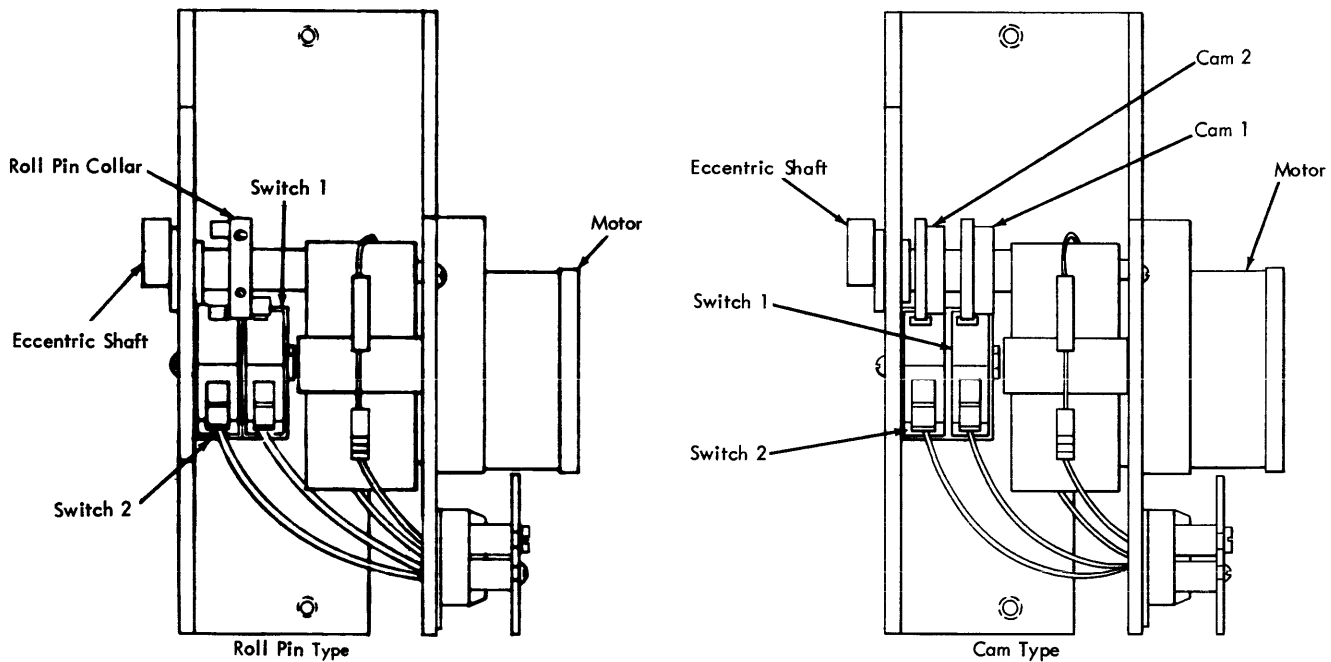

Figure 85. Skew Correction Drive
1. Rotate the eccentric shaft (Figure 85) so the rollpin is actuating the switch.
1. Rotate the eccentric shaft (Figure 85) so the cam is actuating the switch.
2. Loosen the roll-pin collar setscrews (Figure 85) and rotate the collar until switch 2 is just transferred (N/C points, opened). Be sure the collar is aligned properly with both switches.
2. Loosen the setscrews in the cams (Figure 85) and rotate cam 2 until switch 2 is just transferred (N/O